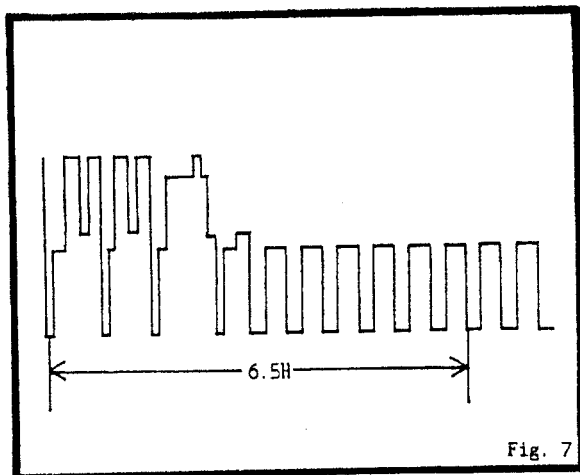

Fig. 7
- (1) Connect CH-1 on the oscilloscope to TP2001 and connect CH-2 on the oscilloscope to TP4202.
- (2) Adjust VR2001 so that the waveform of the oscilloscope measures $6.5 \pm 0.5(\text{H})$ at both leading and trailing edges as shown in Fig. 7.